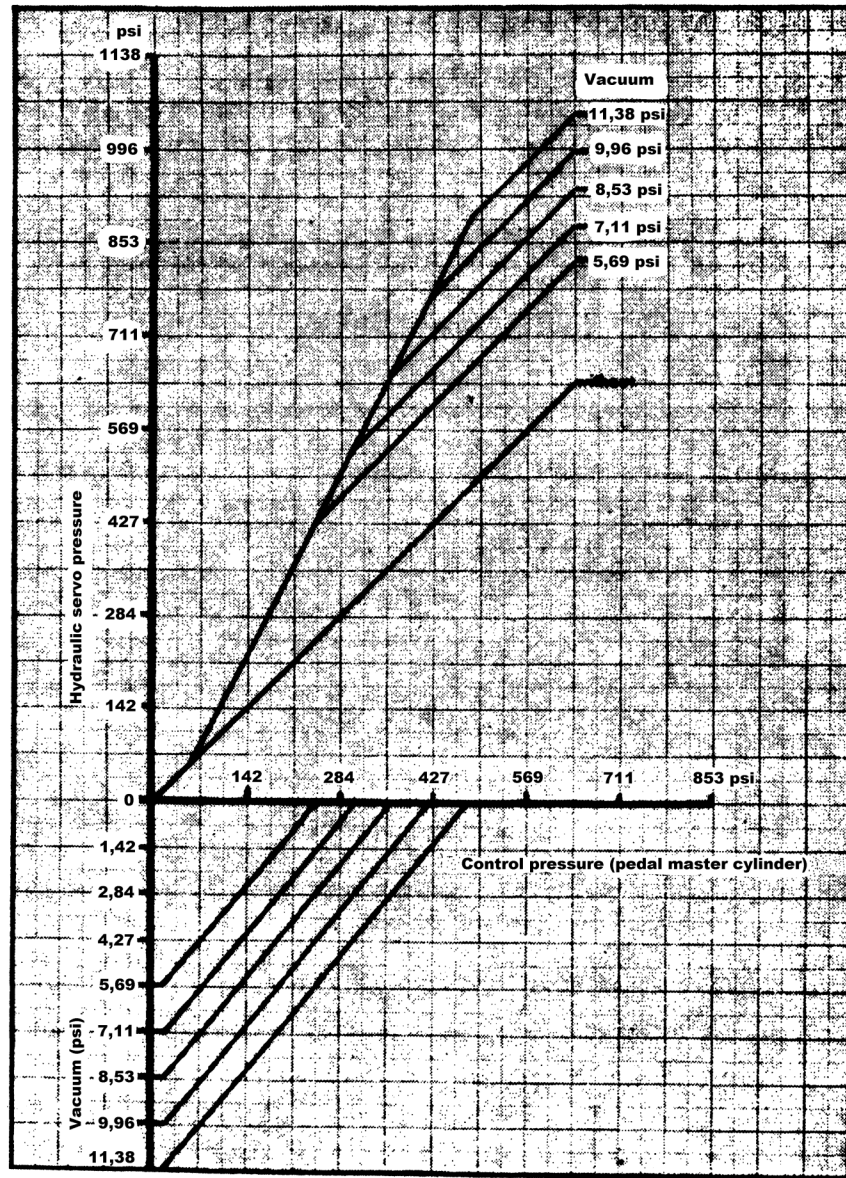

Fig. 6
Connect one vacuum gage between the intake manifold and the power unit and a second vacuum gage at the plug port (55) (cylinder shell lubrication port). At bleed screw opening of a wheel cylinder attach a properly bled hydraulic gage. Start engine and observe vacuum gages, both of which should indicate manifold vacuum. (The gage reading at the lubrication port may be slightly lower than manifold vacuum due to vacuum check valve.) Depress brake pedal and observe vacuum gage at the lubrication port of power unit and hydraulic gage at wheel cylinder. With increase in pedal pressure, the vacuum should decrease and the hydraulic pressure should correspondingly increase according to performance curve (fig. 6).